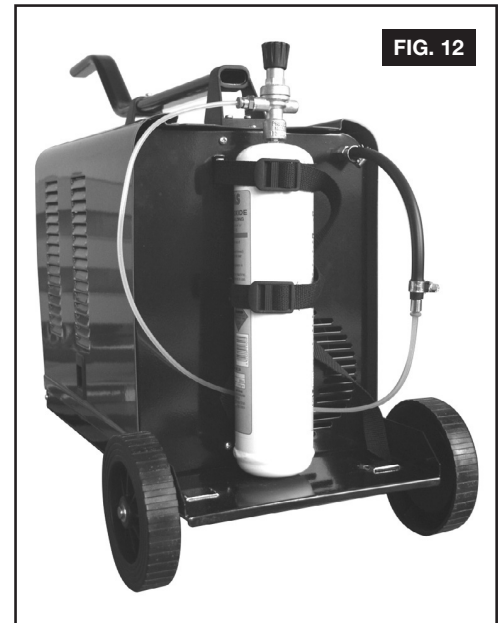

FIG. 12
For welding stainless steel or aluminium, this welder can be converted to a conventional mig welder. To convert to gas, order a reel of regular wire, a bottle of suitable gas, tips and nozzles and a conversion kit containing a regulator plus connection hoses, hose adaptor and jubilee clips (see fig.12) from your local Jefferson dealer.
- 11.5 **Mount the gas cylinder:** Strap the gas cylinder to the back of the machine. Two nylon straps are provided to hold small cylinders in place. Thread the straps through the raised metal fixing loops on the back of the welder. Stand the gas cylinder on the rear platform and fix the straps around it as shown in fig.12.
- 11.6 **Connect gas cylinder to welder gas input.** Push the small adaptor into one end of the larger diameter hose. Push the other end of the hose onto the ribbed gas input connector on the back of the welder. Secure both ends of the hose with the jubilee clips provided. Push one end of the smaller diameter gas hose into the open end of the adaptor and push the other end into the regulator outlet, it will seal automatically. See fig. 12. To release the gas hose, press the collet inwards on the quick couplers and pull the hose out.